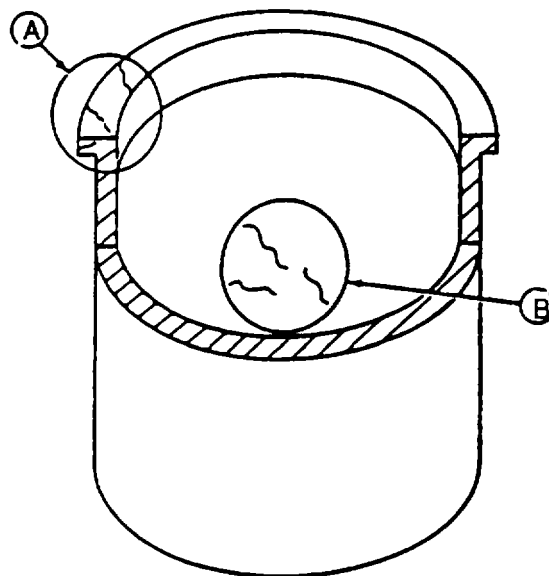

FIGURE 3-151. Inspecting Cylinder Liner for Cracks
- s. Carefully examine cylinder liner for signs of fatigue, such as fine cracks in flange area (A, FIGURE 3-151) and cracks in the ring travel area (B). If any defects are found, replace the piston and liner. If no defects are found, proceed to next step. If pistons and liners have passed all previous checks, proceed to check both for proper specifications, listed in steps t and u.